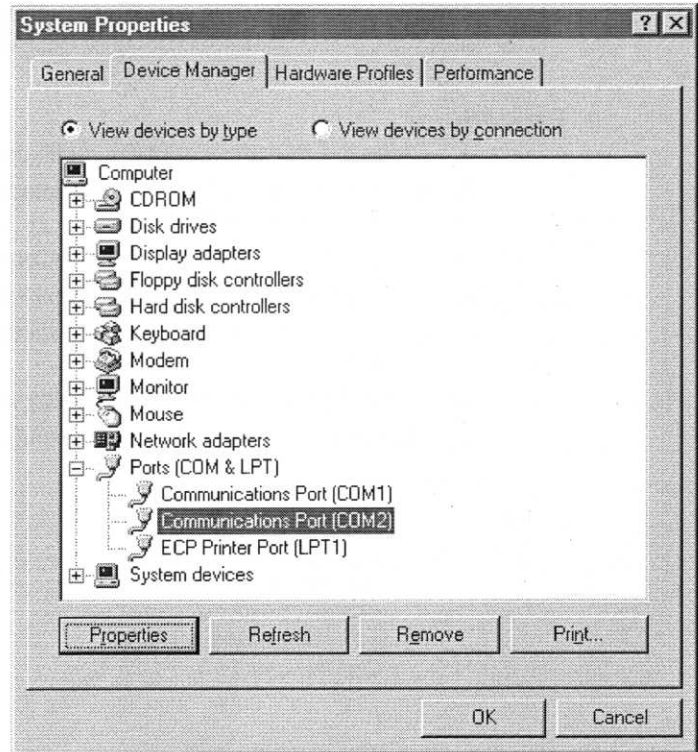

Figure 9-1: System Properties Dialog Box
6. The relevant screen is shown in Figure 9-1.